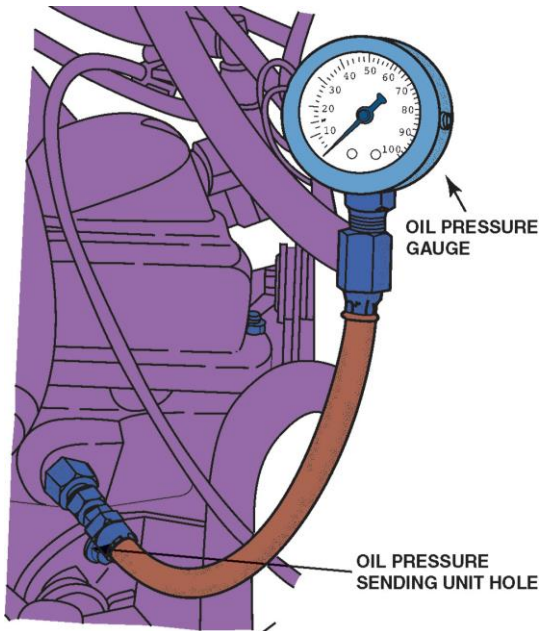

Figure 11. Checking oil pressure.
- Thread an oil pressure gauge into the threaded hole. Figure 11.